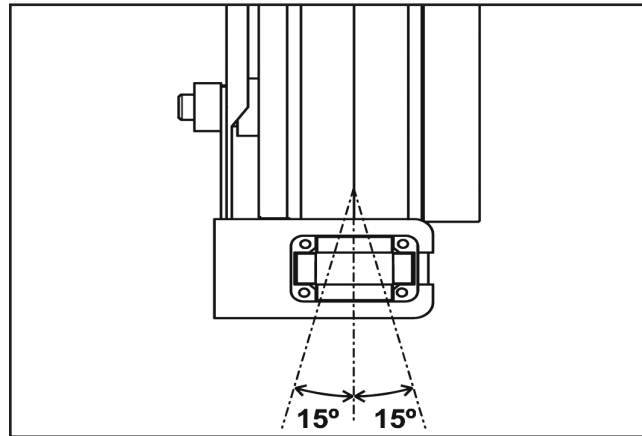

Figure 10-2
- Spools must be mounted perpendicular to the application. The cable should extend perpendicular to the rotation of the spool. The cable deflection should not exceed 15° to either side of the center line of the spool. See **Figure 10-2**.